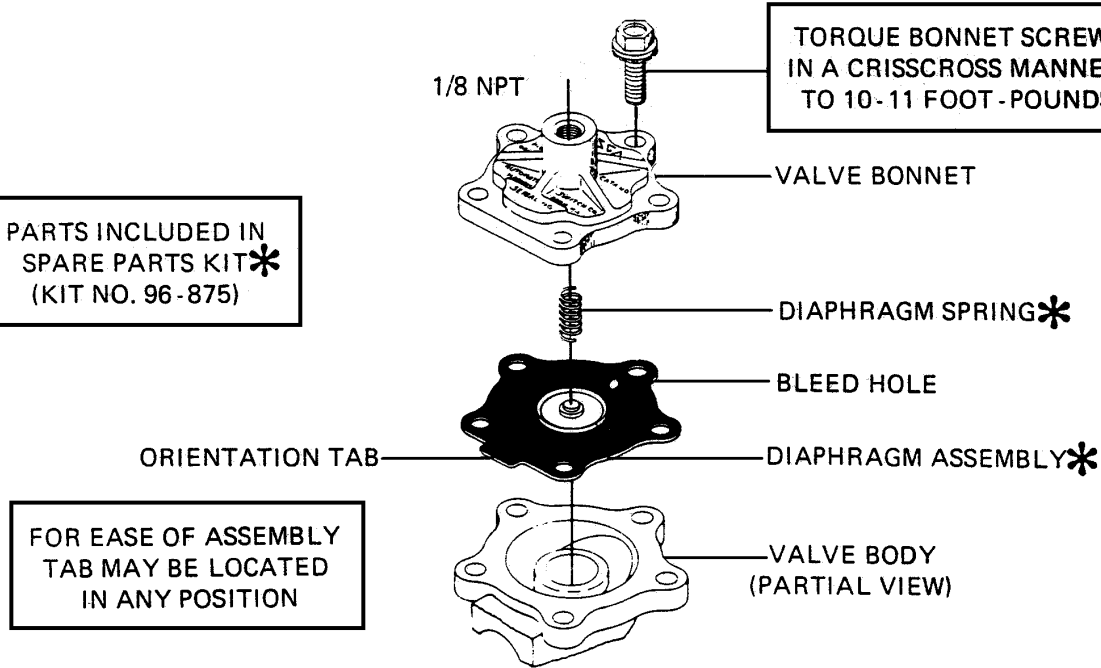

Figure 1.
Two (2) M5 threaded holes are provided in the valve body for mounting. (See Figure 1)